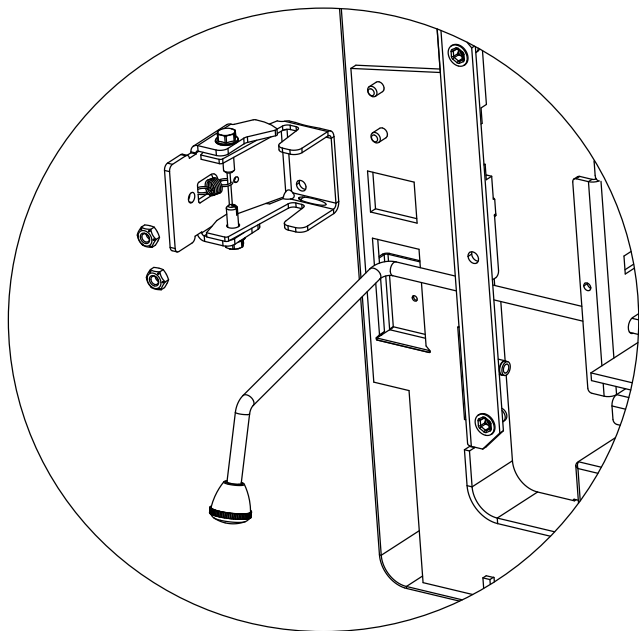

Figure 22.1
9. Install ARS latch by sliding latch assembly over 2 threaded studs protruding from the bottom on the left hand side of the appliance. Secure by using two nuts use 7/16 socket wrench (**Figure 22.1 on page 22**).